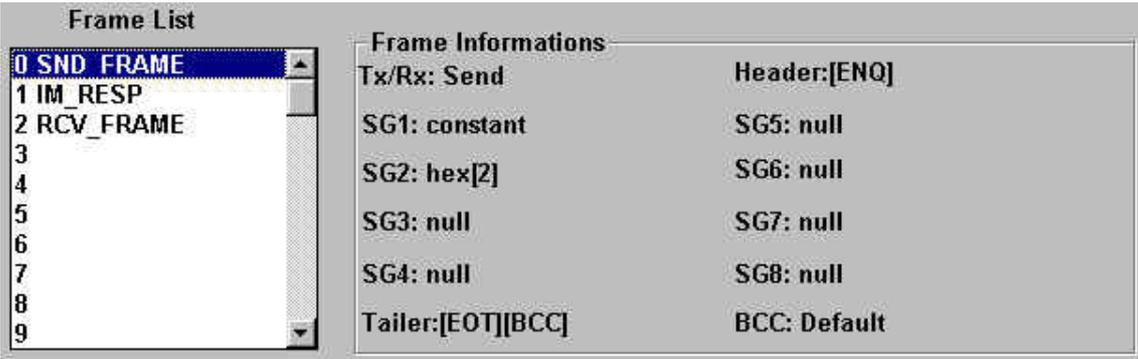
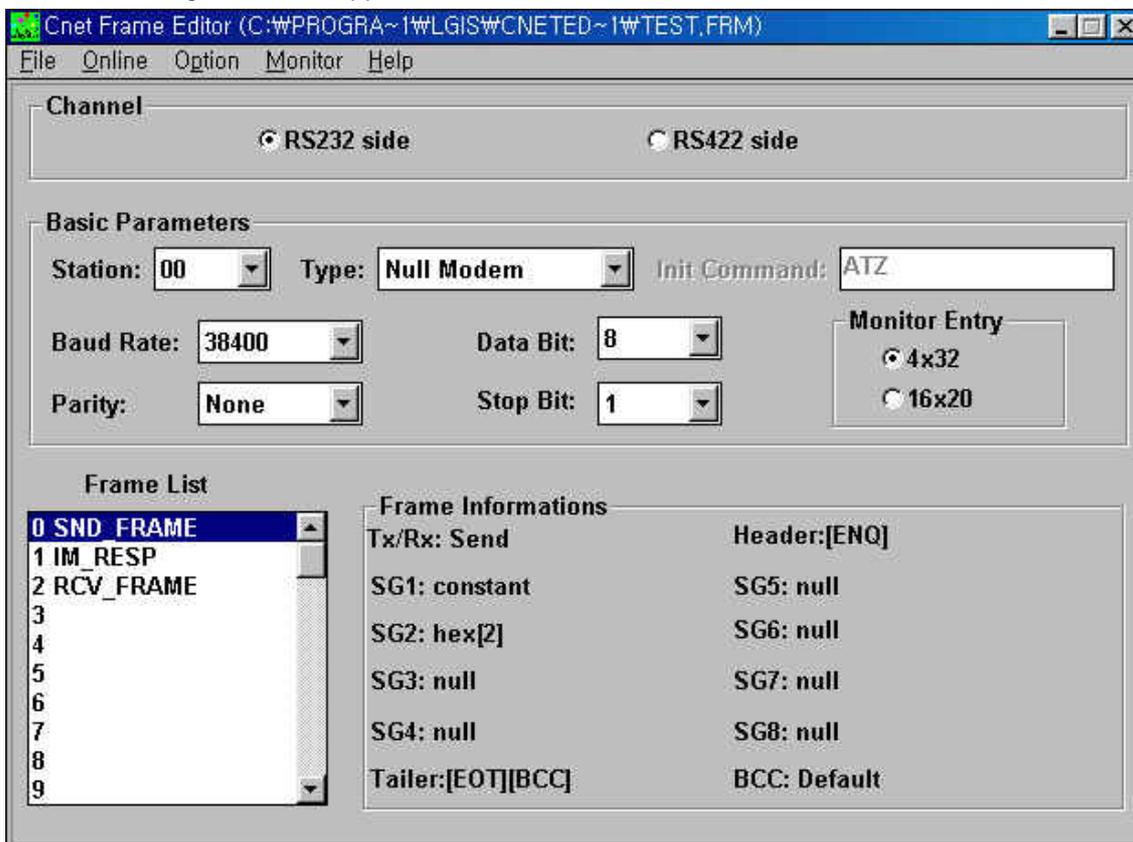
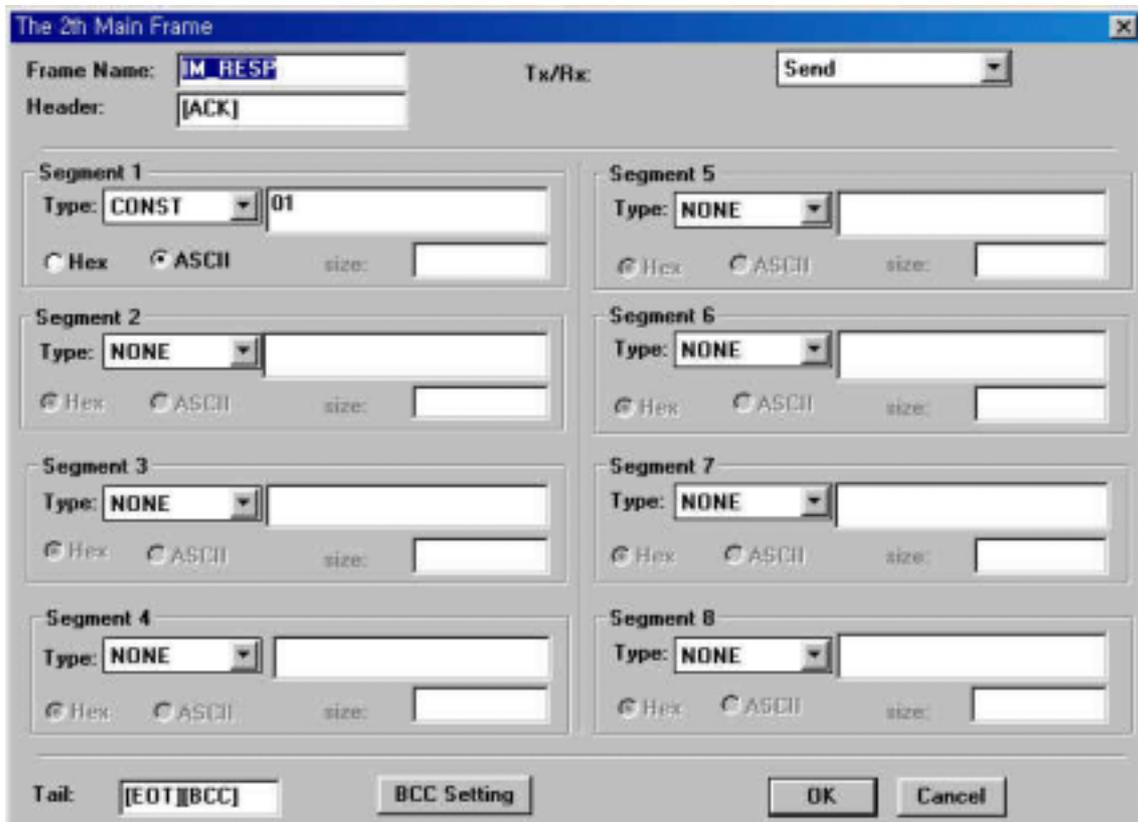

Fig. 6.3 The frame list and information
Fig. 6.4 Frame setting window
Fig. 6.12 An example of immediate response frame
The figure 6.3 is a lower part of initial screen of frame editor, and it shows a frame list and brief information.
- ① Select a frame number in the frame list of figure 6.3, and double-click. The screen as the figure 6.4 will appear.
- ① Select a frame number at the frame list.
- ② Input a frame name after the screen as the figure 6.4 appeared.
- ③ Set the direction of data. To receive data from external device, select 'Receive'.
- ④ Set a header of frame. It is similar with that of sending frame. In this example, input [STX] to the header.
- ⑤ Set each segments of frame. When a segment is set as array, use only the 'RD1.' for variable name.
- ⑥ Set the tail of frame.
- ⑦ If it is need to return a response to the external device immediately, write a name of immediate response frame. The immediate response frame is sent to the external device by Cnet module, and it is registered at the frame list as sending frame. See the figure 6.12 for an example of immediate response frame.